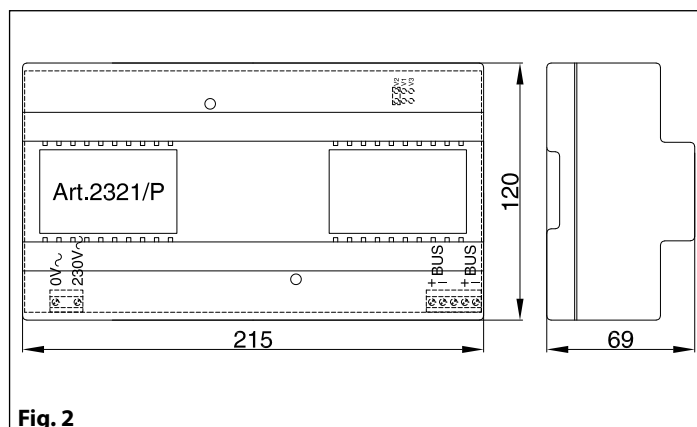

Fig. 2
2. Pull outwards the top part of the cover as shown in Fig. 2. **Don't pull the cover straight.**